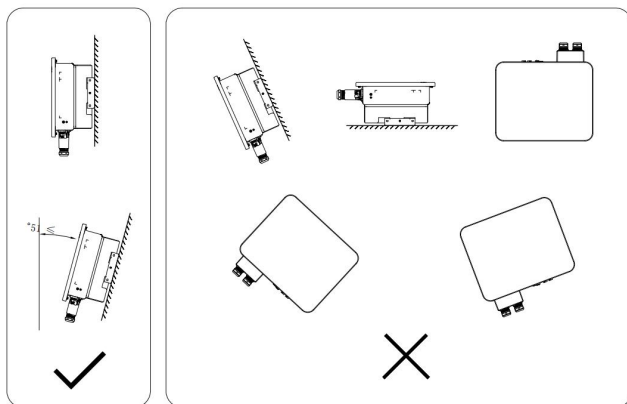

Fig. 2 Inverter installation position
- (1) The ambient temperature must be between  $-30^{\circ}\text{C}$  and  $60^{\circ}\text{C}$ .
- (2) The installation surface must be vertical. See Figure 2.